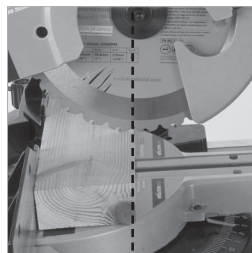

Fig. 27
- Grasp the Cutting Handle and pull the Cutting Head forward until the arbor (centre of saw blade) is over the front edge of the workpiece. (Fig. 27)